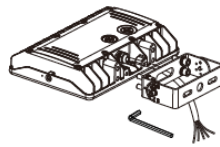

Fig. 4
1. Pass the wire through the bracket (Fig. 4).